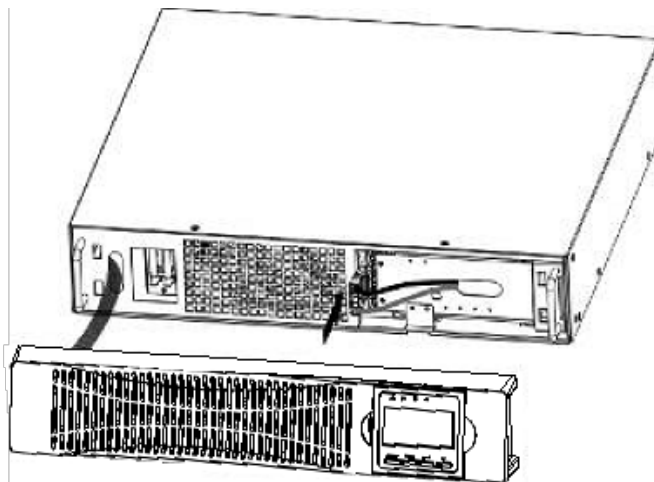

Figure 6 Connecting the UPS Internal Batteries
- b) Connect the internal battery connector (see Figure6)